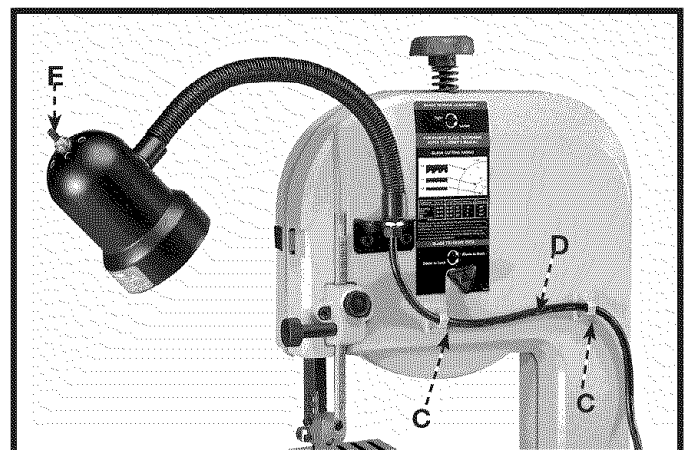

Fig. 19
- Peel the backing from the cord clamps (C) Fig. 19, and apply one clamp at each of the locations shown. Make certain the lamp cord is routed out of the way of the blade, then secure the cord (D) to the cord clamps (C) Fig. 19.
- The flexible lamp operates independently of the band saw. To turn the lamp on and off, rotate the switch (E) Fig. 19.